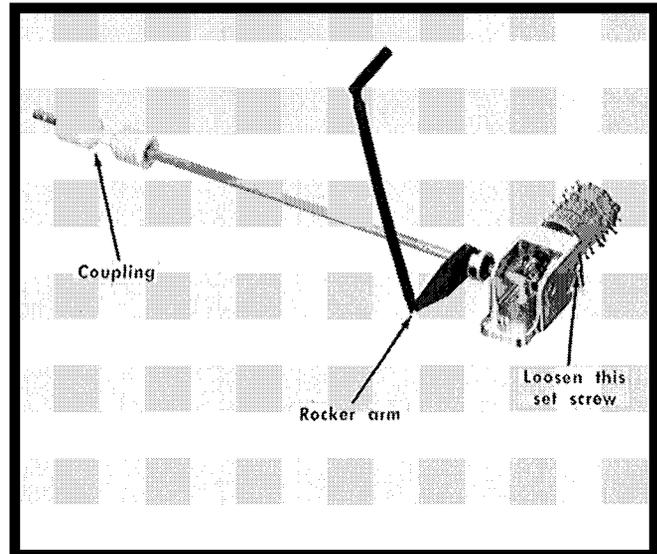

Fig. 4-14. Dispersion range switch removal.
5. Loosen the set screws for the drive gears on both the switch shaft and the drive shaft. Loosen the set screw through the mounting bracket casting (Fig. 4-14).